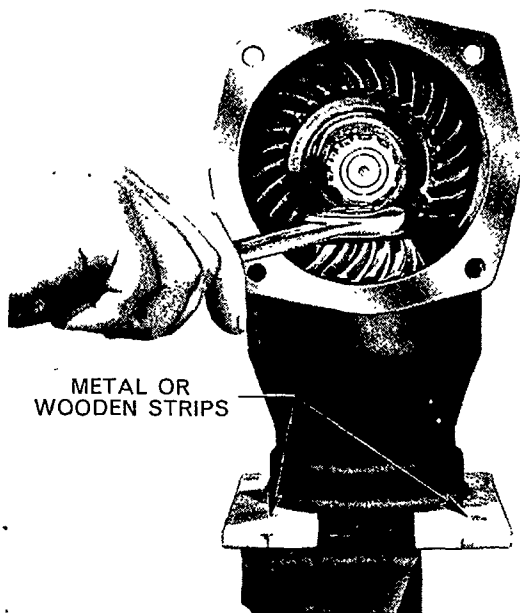

Figure 4
4. Install the output shaft into the housing assembly and position two strips of metal or wood of equal thickness (approximately 0.375 in. [35 mm.]) between the pulley mounting flange and the output shaft oil seal. Install the inner cone and roller assembly, flat washer, and the retaining nut, Figure 4.